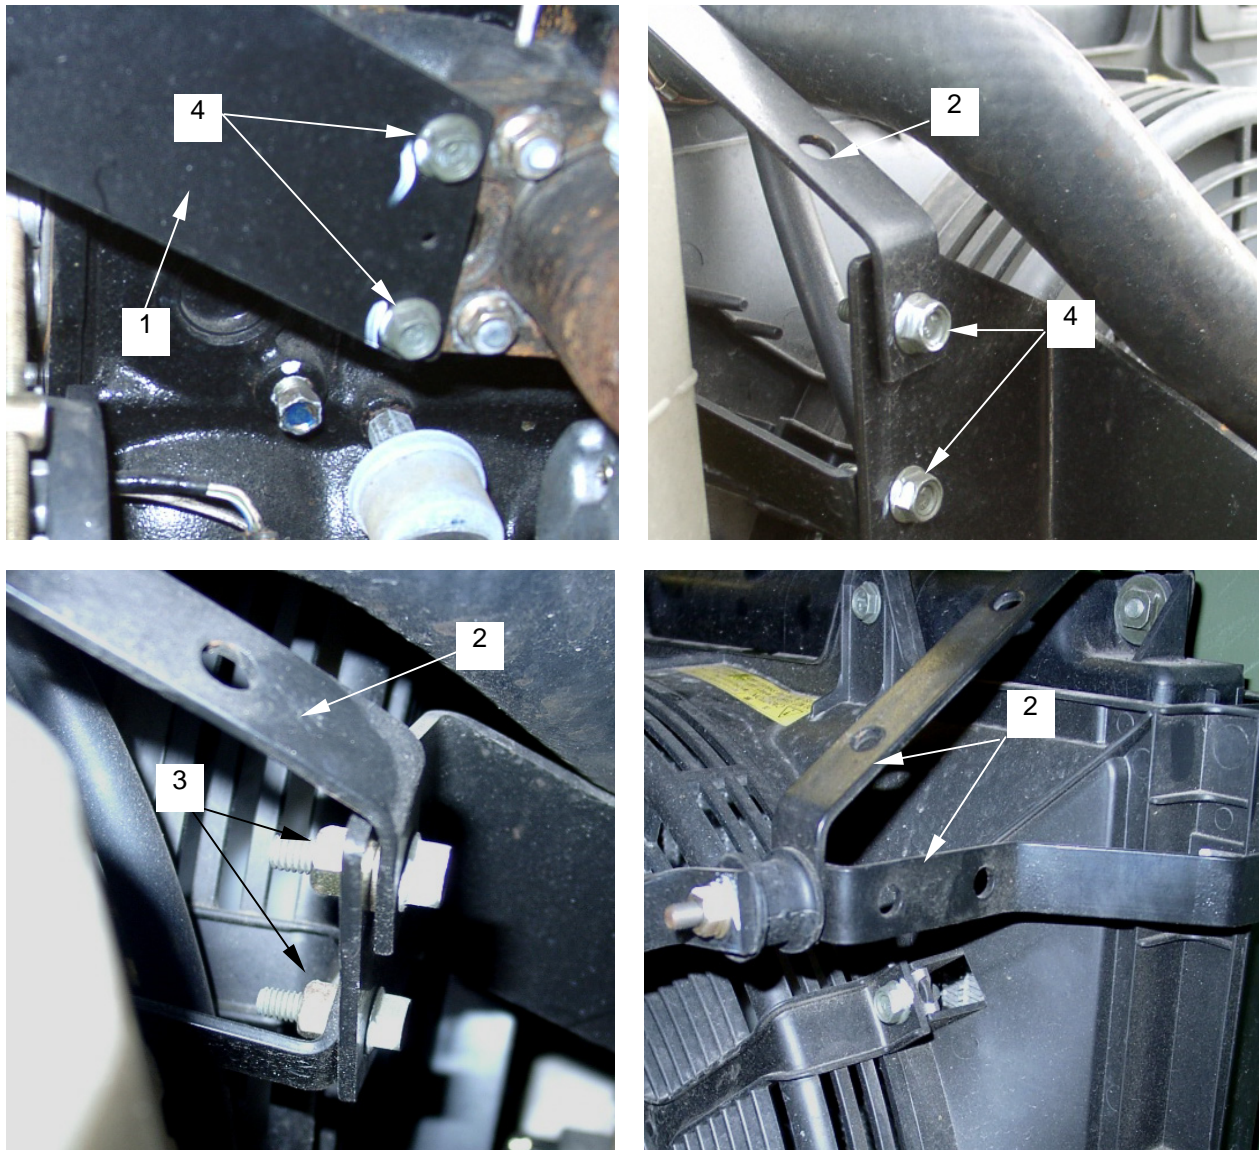

Figure 31. Radiator Brackets
- n. Install radiator brackets (**figure 31, item 1**) (**figure 31, item 2**).
- o. Fasten and tighten radiator bracket nuts (**figure 31, item 3**) and bolts (**figure 31, item 4**).